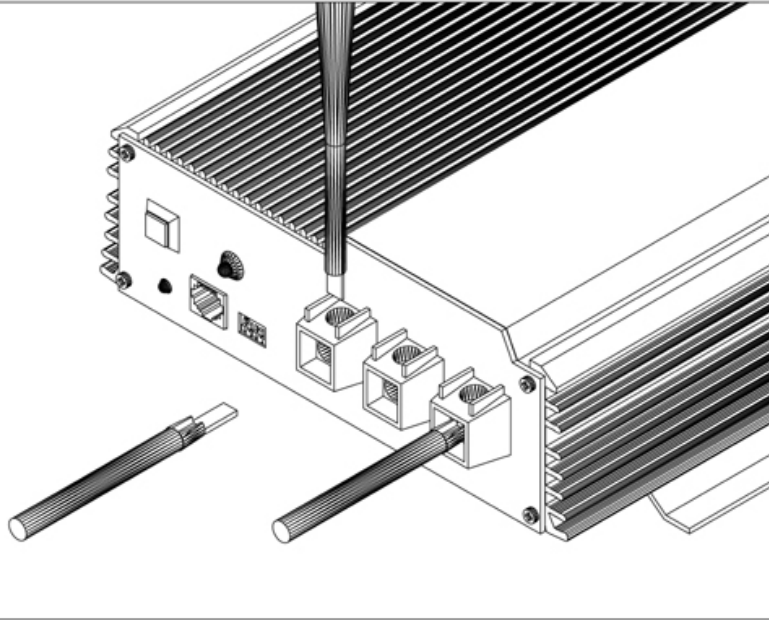

Figure 11
- For connection of starter batteries, please connect the terminal as our drawing (see figure 11).